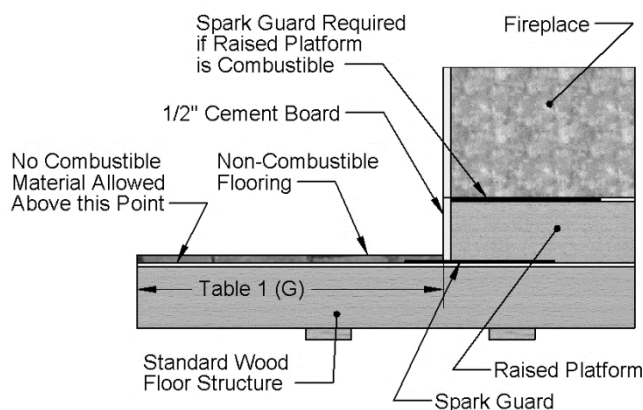

FIGURE 19 HEARTH EXTENSION EXAMPLES
The area immediately in front of the fireplace must be protected if the surface is combustible. Refer to Table 1 (E-F) for the depth and width that the hearth extension protection should extend beyond the front and both sides of the fireplace opening (see Figure 2). Refer to Figure 19 for various alternatives of hearth extension installation.
The spark guard provided (C) must be installed 2½" under the fireplace bottom standoff and 2½" under the hearth extension, centered on the fireplace opening (see Figure 19). This guard prevents sparks from lodging in this area and starting a fire.